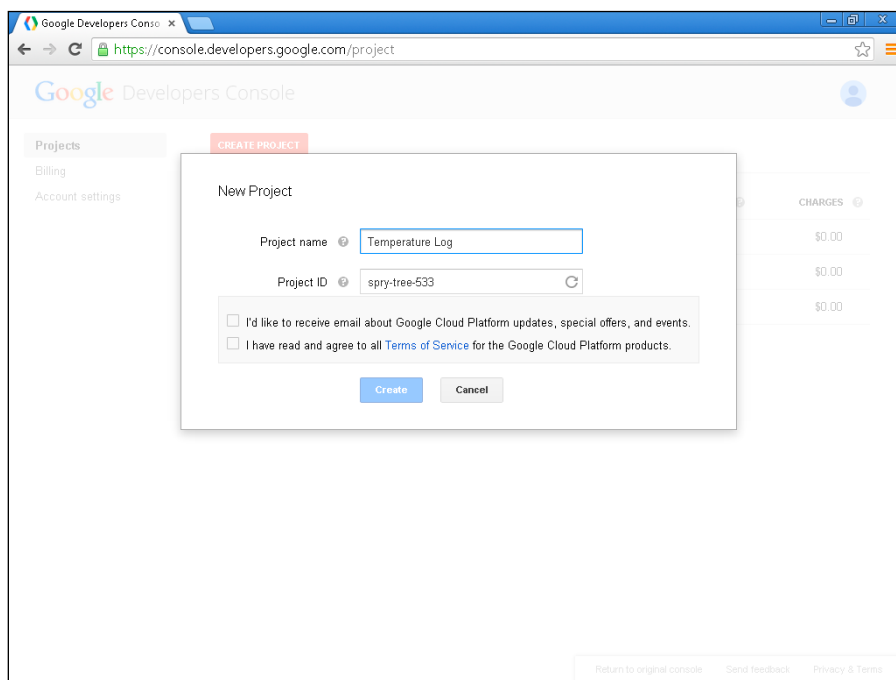

Figure 10-5:
The screen shown in Figure 10-5 appears, prompting you to enter a project name and project ID.
2. Enter the project name (as shown in Figure 10-5), and leave the project ID whatever Google made up for you.